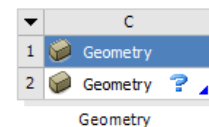

Figure 3-56 The **Geometry** component system added to the project
2. Right-click in the **Project Schematic** window and choose **New Component Systems > Geometry** from the shortcut menu displayed; the **Geometry** component system is added to the **Project Schematic** window, as shown in Figure 3-56.